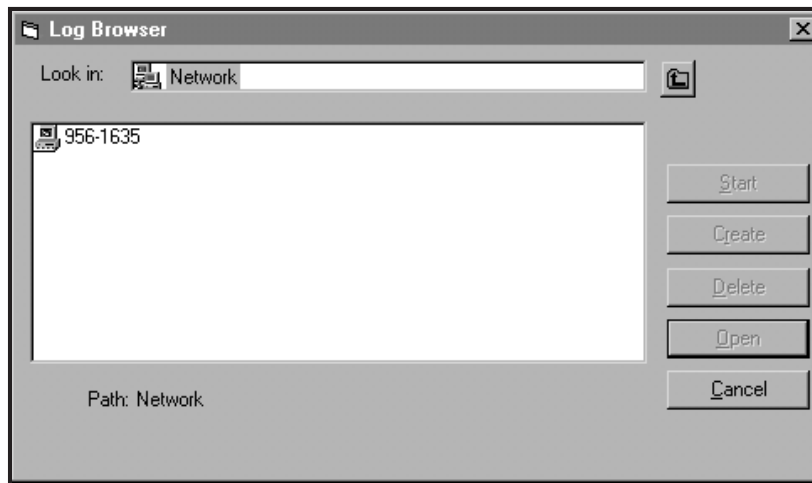

Figure 14: Computer Selection
- Click on the *Log Browser* option. The dialog box shown in *Figure 14* below appears.